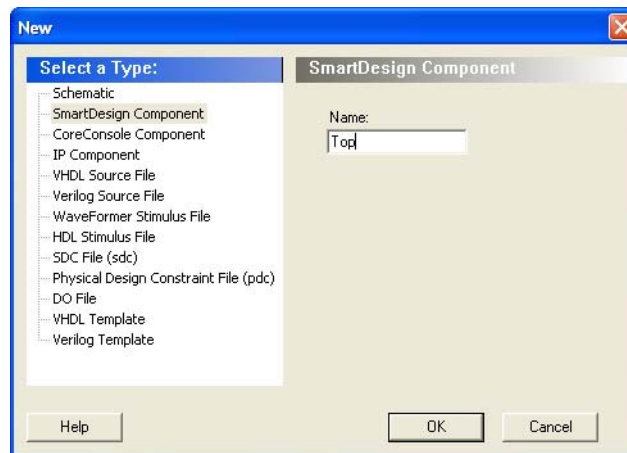

Figure 1-14 • New SmartDesign Component Dialog Box
2. Enter **Top** in the name field and click **OK** to continue (Figure 1-14).